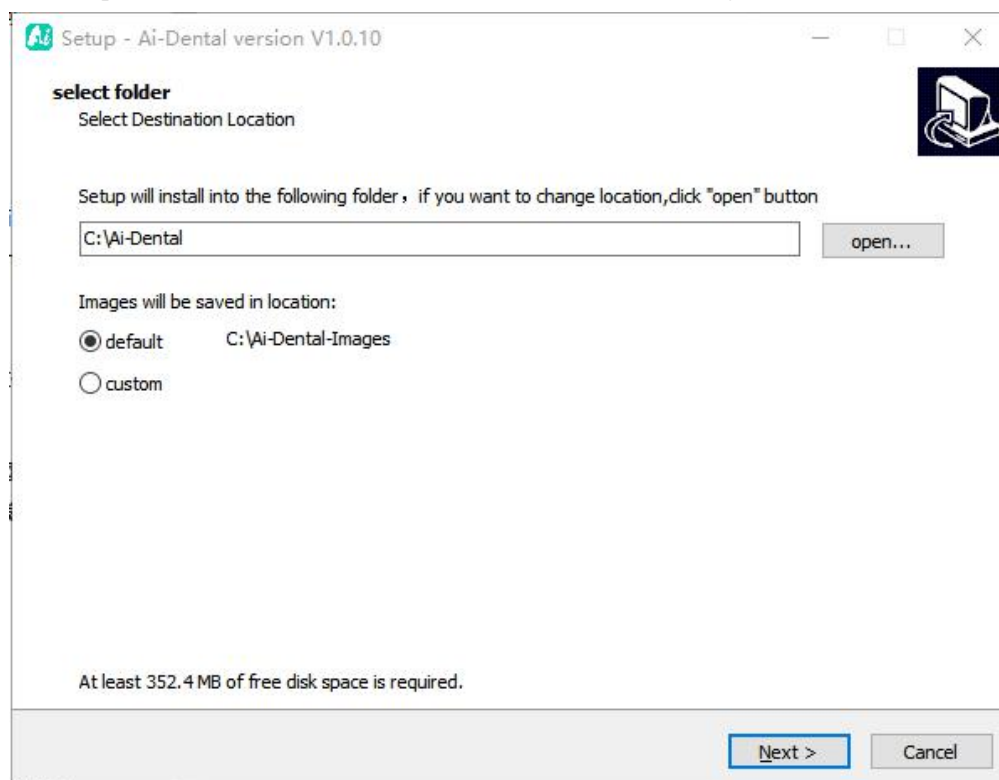

Figure 3
3.1.3 After the installation program is started, click the “Browse” button to select the installation path. After the path is selected, click the “Next” button, as shown in Figure 3: